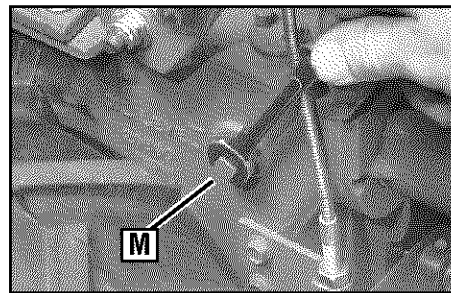

Figure 2-10: Gear oil level check plug.
2. Remove the oil level check plug (M, Figure 2-10) on the left-side of the transmission. (Due to dried paint on the plug threads, it may require some force to remove the plug the first time.) The gear oil level is correct if oil starts to flow out of the hole as the plug is removed. If so, securely reinstall the plug.
- Reinstall and tighten securely the gear oil fill plug (M, Figure 2-10).